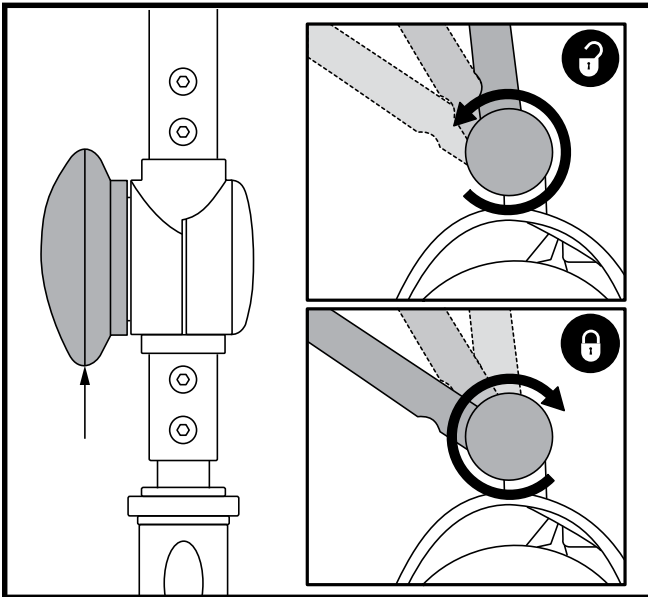

Figure 24. Tiller Adjustment Knob
TILLER ANGLE ADJUSTMENT (See figure 24)
1. With the seat and battery pack removed (see Disassembly Procedures on previous page), lower the tiller and tighten the tiller adjustment knob. **See figure 24.**
3. Raise the tiller and fully tighten the tiller adjustment knob. **See figure 24.**